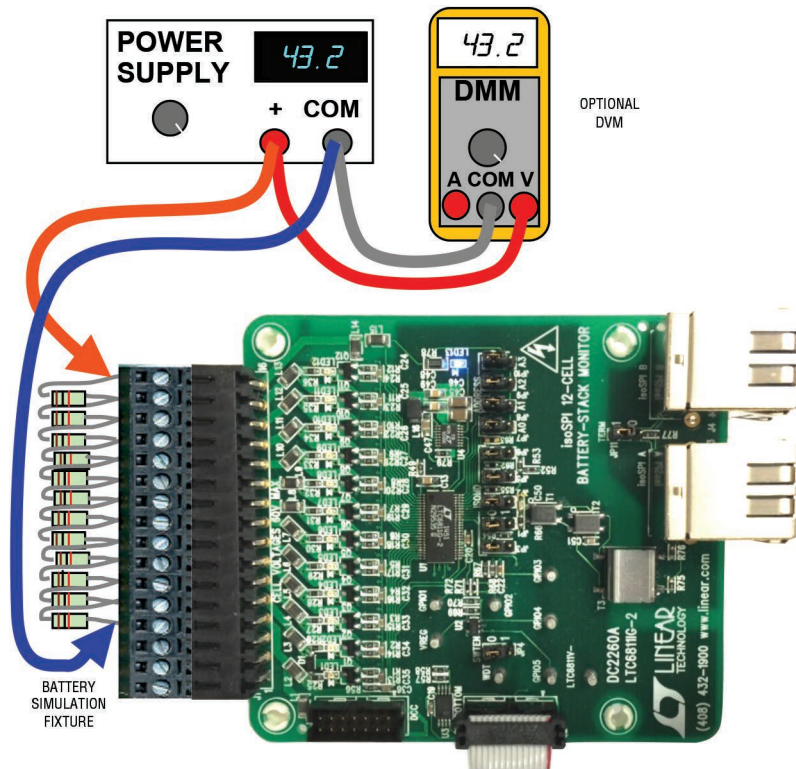

Figure 1. Simple Cell Simulator Using Resistors
Alternatively, for a simple demo, connect twelve 100Ω resistors between each contact from position 4 to position 16 as shown in Figure 1. Then, provide a “stack-equivalent” power supply connection to position 16 (positive) and position 4 (return). The supply may be adjusted to provide the desired nominal cell voltage (e.g., 43.2V will be 3.6V/cell). **Note that cell discharge cannot be demonstrated properly with a resistor string stimulus.**
1. Set jumpers on the board per Figure 1.